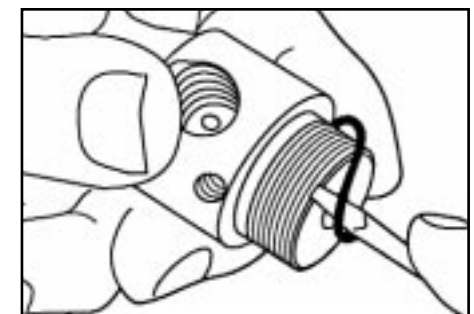

Figure 33
10. Remove the body seal O-rings. (Fig.33)